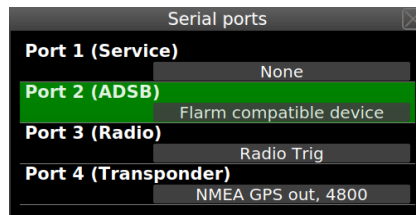

Figure 37: Serial port configuration window.
4. Select the *Serial ports* item. Figure 37 illustrates the window.
Configure the transponder RS-232 part to *NMEA* and set data rate to *4800*. Also, set Nesis port to *NMEA GPS out, 4800*, see Figure 37.